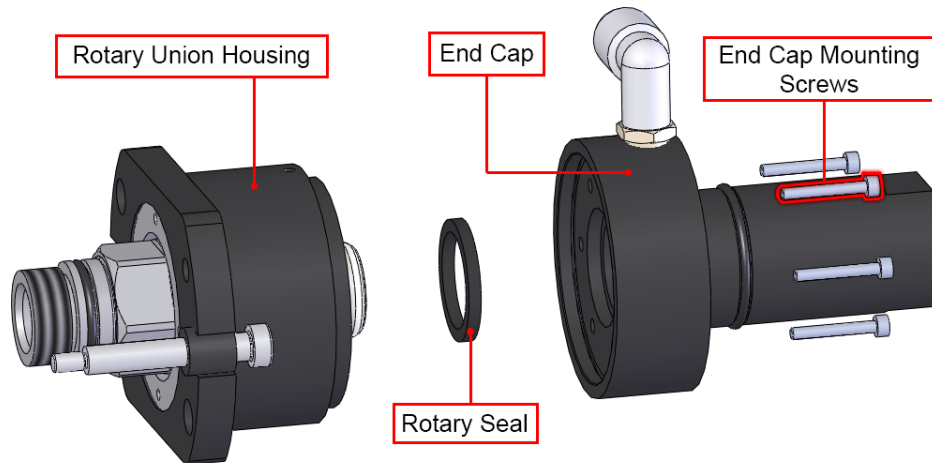

Figure 4-11: Rotary Seal Installation / Removal
Step 4: Carefully pull the end cap off of the rotary union housing. The rotary seal and rotary union shaft will now be exposed. Figure 4-11 shows an exploded view of the seal assembly.